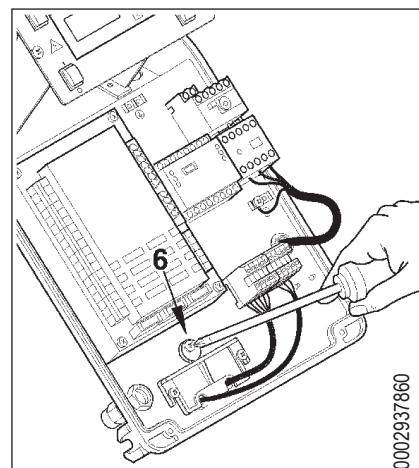

Figure 3
- Reposition the cable clamp plate (fig. 3). Turn the cam (6) so that the cable clamp plate (3) exerts sufficient pressure on the two cables, then tighten the screws that fasten the plate. Finally, connect the two 7 and 4-pole plugs.